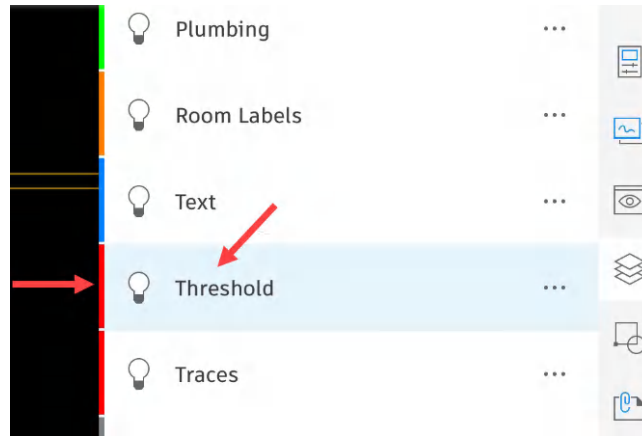

Figure 15.26: The Threshold layer in the layer list
7. Scroll down the layer list to find the **Threshold** layer. The layer color is shown as a vertical highlight to the left of the layer name in the layer list, as shown in *Figure 15.26*.